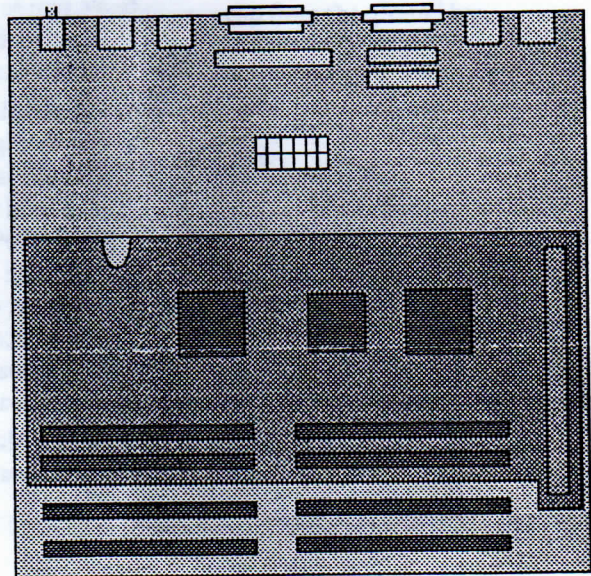

Figure 17: Positioning the NewLife Accelerator! on the Mac motherboard
You install the NewLife Accelerator! board on top of the Macintosh motherboard — as shown in Figure 17. The 96-pin connector on the bottom of the NewLife board attaches to the Mac SE expansion connector.
2. Position the NewLife Accelerator! board above the Macintosh motherboard as shown in Figure 17. Before you apply any pressure, look between the two boards and make sure all of the pins are aligned with the socket.